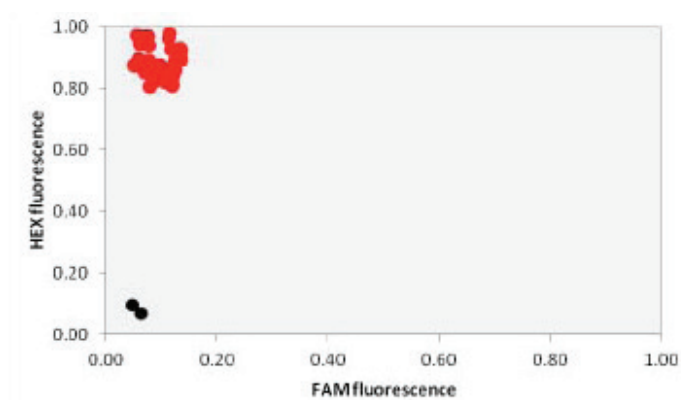

Figure 3.6. All data points cluster together in one position on the plot – in this case, samples are monomorphic for the allele detected by HEX.
**Plot characteristics:** monomorphic results on the genotyping plot (Figure 3.6).